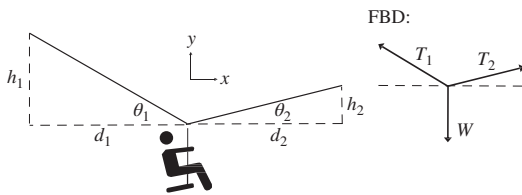

Figure P4.29 Zip line supporting a person.
- 4-29.** A zip line supporting a person weighing $W = 200$ lb is attached at two points by a cable. The geometry and free-body diagram are shown in Fig. P4.29.